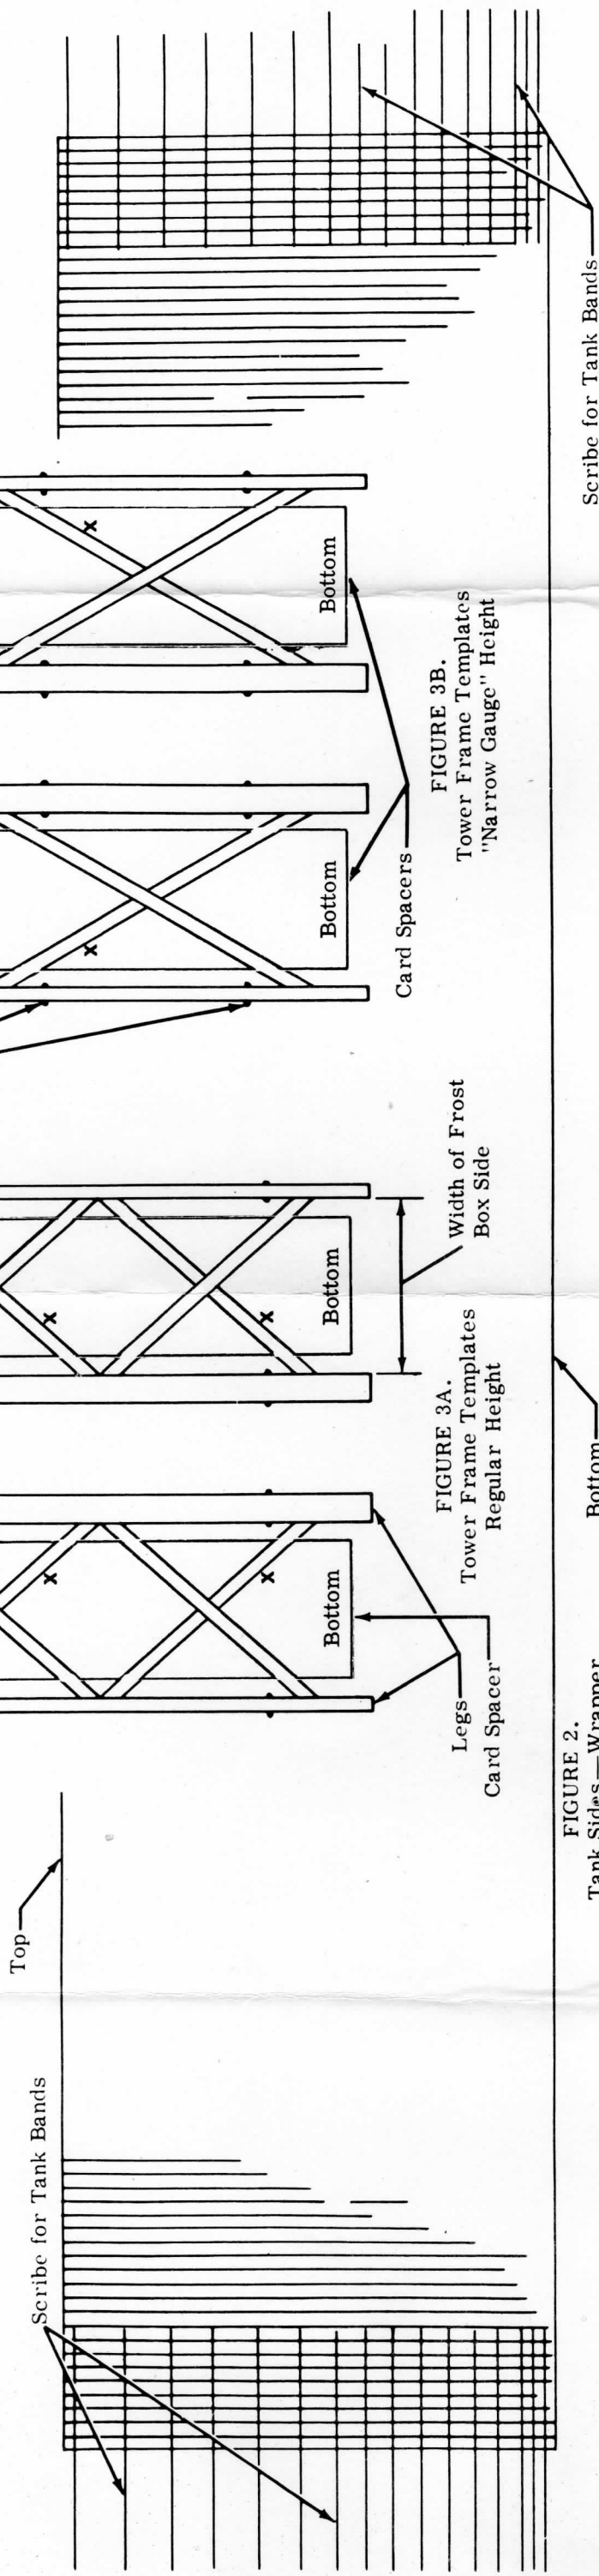

FIGURE 2.
1. Glue the 4 pieces of scribed sheathing (3" x 3½") edge-to-edge on the template, Fig. 2, to form the sides or wrapper for the round tank. In working on any of the templates, it is best to spread waxed paper over the drawing to prevent the glue from sticking to the paper. As you glue each piece in place, hold it with bits of masking tape so it will not shift. Make sure the
6. While the frames are drying, you can complete the tank itself. Place the wrapper over the template in Fig. 2, with the top and bottom edges lined up exactly with the template, and fasten it in place with masking tape so it cannot move. The short horizontal lines extending out beyond the ends of Fig. 2 are the positions for the tank bands. In order that the bands will be straight, we suggest that you lightly scribe all the way along the length of the wrapper for each band. When you pull the bands tight they will drop into the grooves and be held straight, and in place. Scribe the groove with a knife that is sharpened into a broad "V" edge, thus V. A knife sharpened to a thin edge, will not make a groove wide enough to hold the bands, and a dull knife tears the wood, making "fuzzy" edges.